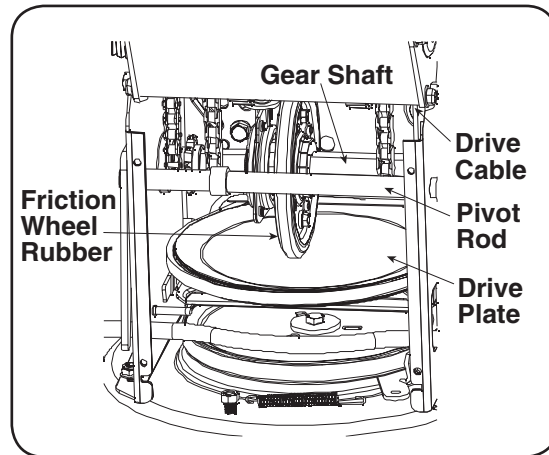

Figure 5-5
- With the drive control released, there must be clearance between the friction wheel and the drive plate in all positions of the shift lever. See Figure 5-5.
- With the drive control lever engaged, the friction wheel must contact the drive plate. See Figure 5-5.